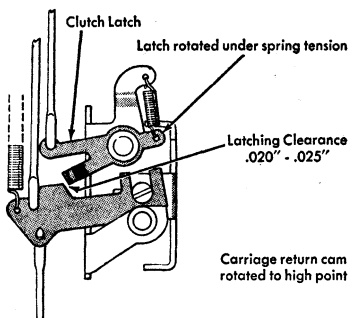

Figure 43. Clutch Latching Clearance
3. **FRONT CLUTCH LEVER LINK.** Adjust so that, with the cam on its high point, the clutch lever will clear the clutch latch by $.020''$ to $.025''$ (Figure 43).